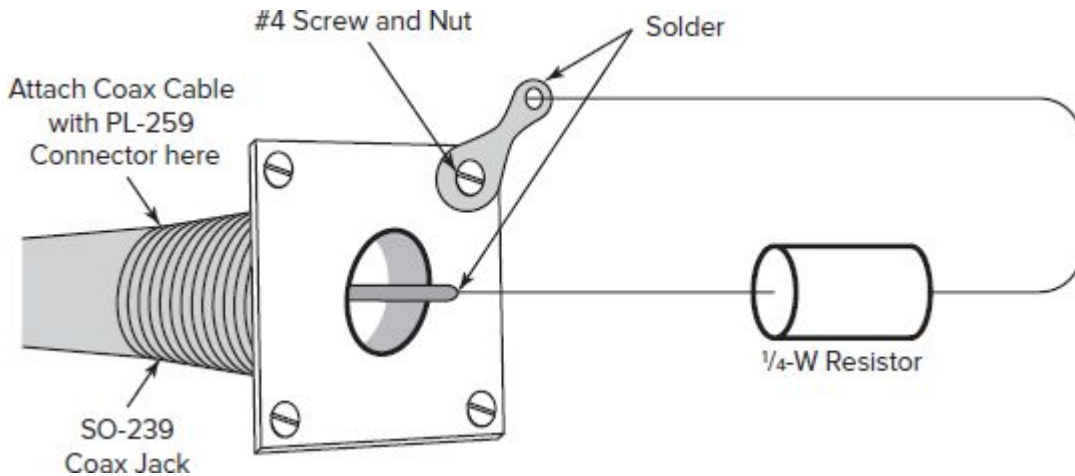

Fig. 13-1 Load for coax cable.
1. Using the SO-239 coax connector, build a load for the coax cable. Mount a solder lug on one corner of the connector with a #4 screw and nut as shown in Fig. 13-1. Solder the 51- Ω resistor to the center conductor, of the connector and the solder lug as shown. Screw the load onto one of the PL-259 UHF connectors on one end of the coax cable.